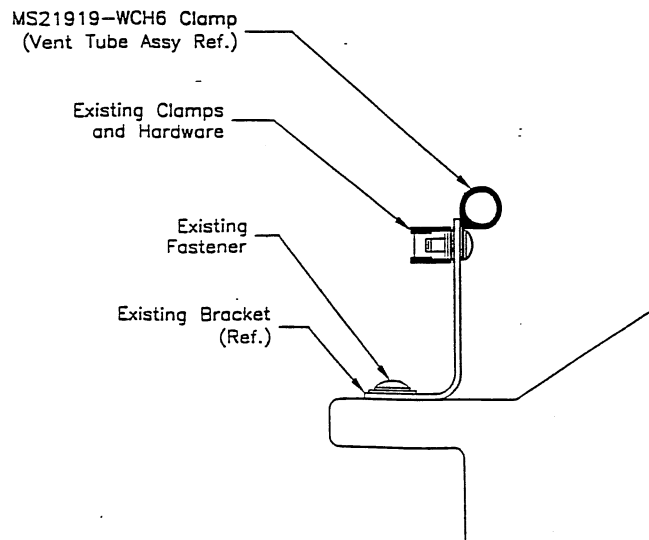

Figure 1-2
6. Install MS21919-WCH6 Clamp as shown in Figure 1-2, using existing hardware.